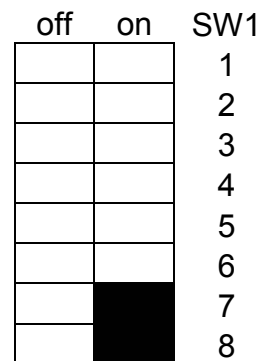

fig. 5
12. Set the Rinnai Infinity to 'Forced High' combustion by setting no. 7 and no. 8 dipswitches of the top set of switches (SW1) to 'ON'. (fig.5) Ensure maximum water flow.